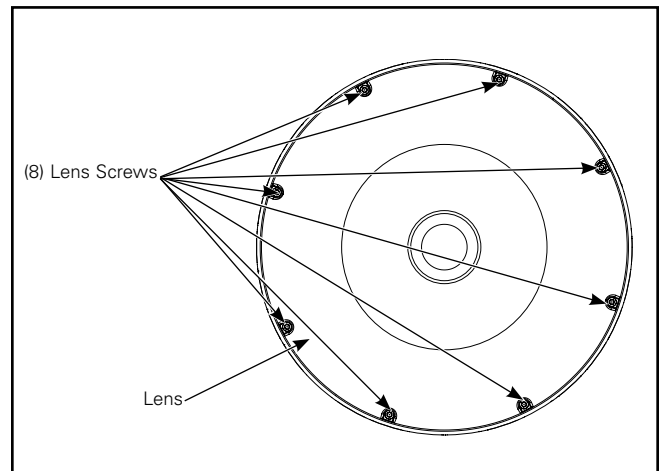

Figure 5.
1. Unscrew the eight screws that fasten the Lens to the housing (Figure 5). If there is a motion sensor, disconnect the two quick disconnects for the motion sensor wires before completely removing the lens. Set aside.
9. Reinstall the lens and lens screws that were removed in the step 1 (Figure 5). Tighten the lens screws to 8 in-lbs. If there is a motion sensor, be sure to reconnect the motion sensor quick connects while performing this step. Make sure the two quick connects are reconnected appropriately.